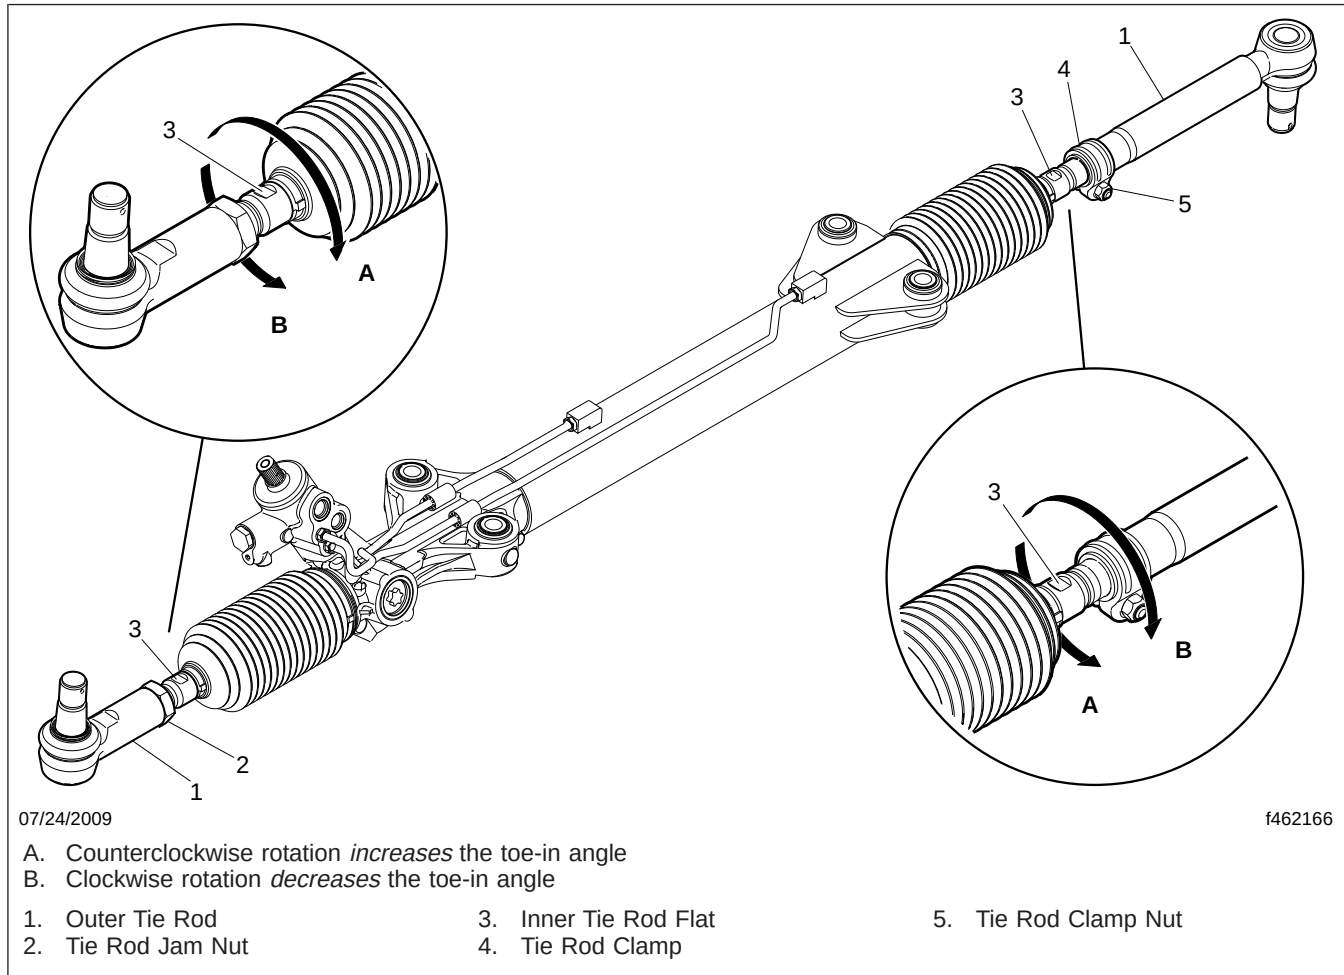

Fig. 2, Rack and Pinion Gear Assembly
- 4.1 Loosen the driver-side tie rod jam nut, see Fig. 2. If necessary, hold the inner tie rod
in place with a backup wrench on the inner tie rod flat (Fig. 2, Item 3).
- 4.4 Loosen the passenger-side tie rod clamp nut, see Fig. 2.